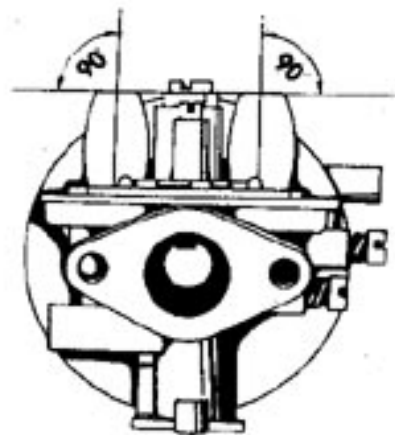

FIG. 22
1. Mechanical Adjustment - Fig. 22